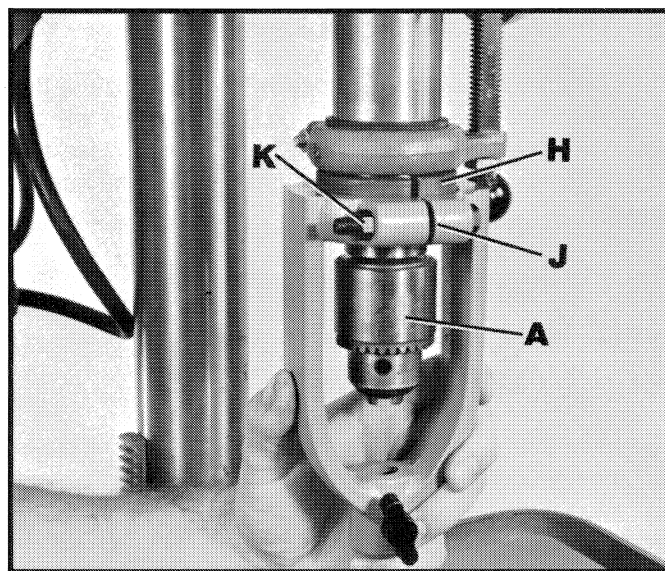

Fig. 8
5. Slide chisel holder (J) Fig. 8, over spindle (A) and over split-ring bushing (H). **NOTE:** Before tightening hex nut (K) Fig. 8, make certain the slot in split-ring bushing (H), lines up with slot in chisel holder (J) as shown.